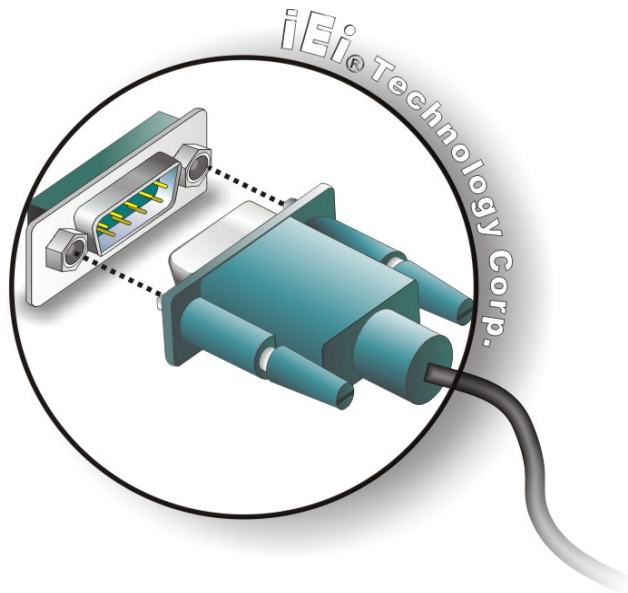

Figure 3-21: RS-232 Serial Device Connector
Step 2: **Insert the serial connector.** Insert the DB-9 connector of a serial device into the DB-9 connector on the external peripheral interface. See **Figure 3-21**.